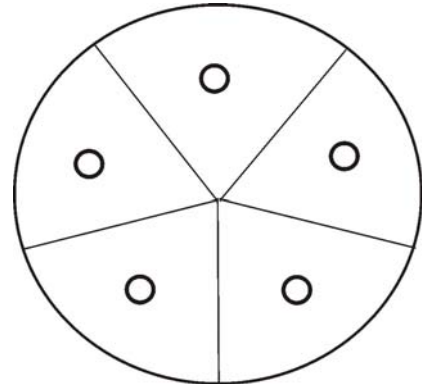

Figure 5. Placement of disks with disinfectants on plate.
2. Divide the bottoms of the plates into 5 sectors (see Figure 5), label sectors for each of the 5 germicidal agents provided on the side bench.
5. Repeat steps 3 and 4 for the other five agents, spacing the disks symmetrically upon the medium (Figure 5).